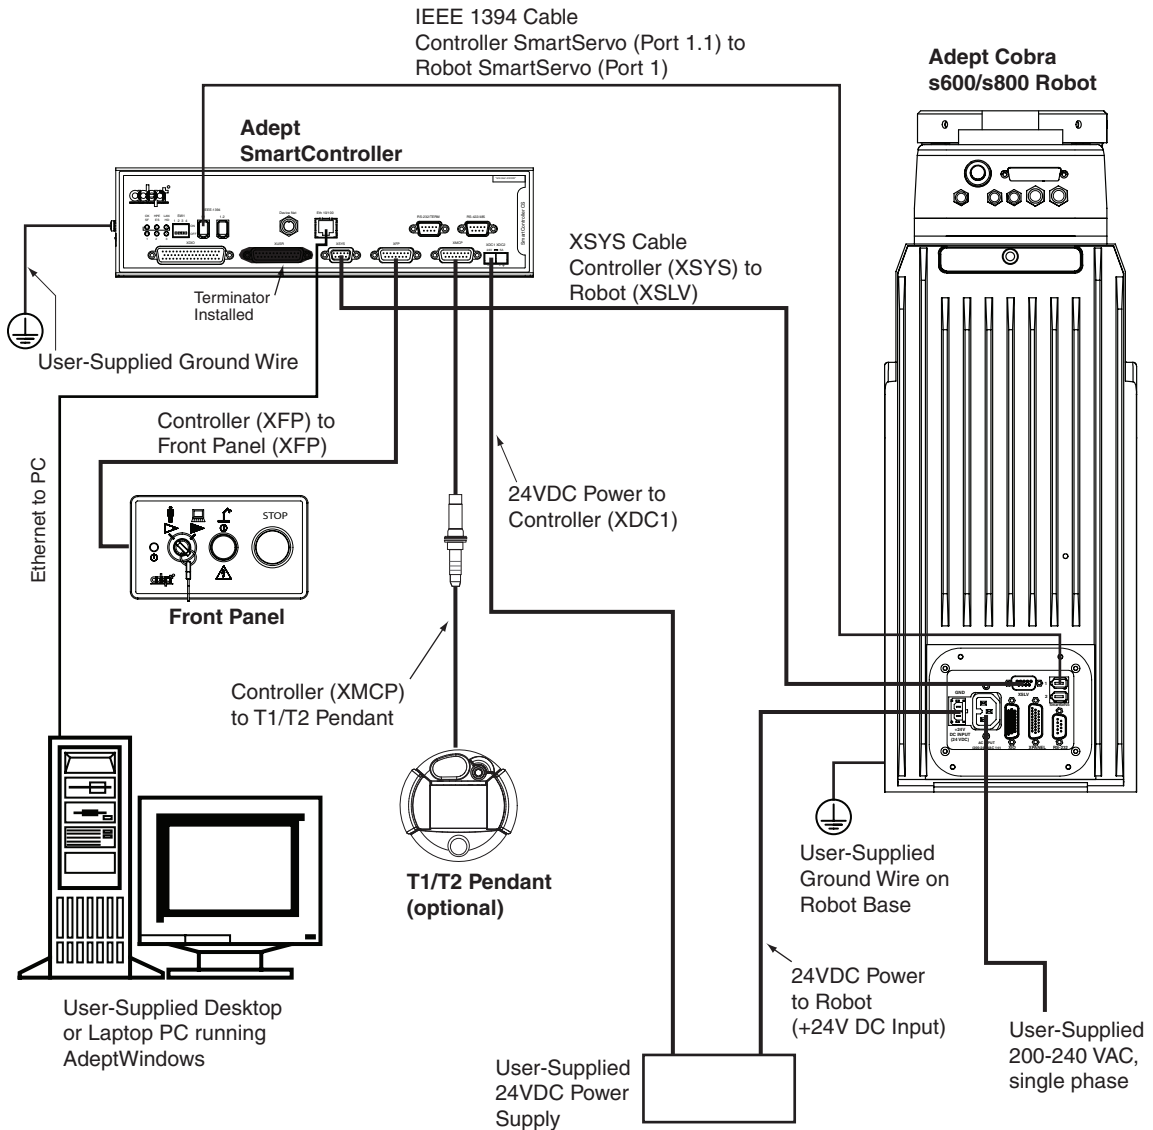

Figure 4-1. System Cable Diagram for Adept Cobra s600/s800 Robots
2. Install one end of the IEEE 1394 cable into the SmartServo port 1.1 connector on the SmartController, and install the other end into the SmartServo port 1 connector on the robot interface panel. See Figure 4-1 on page 41.